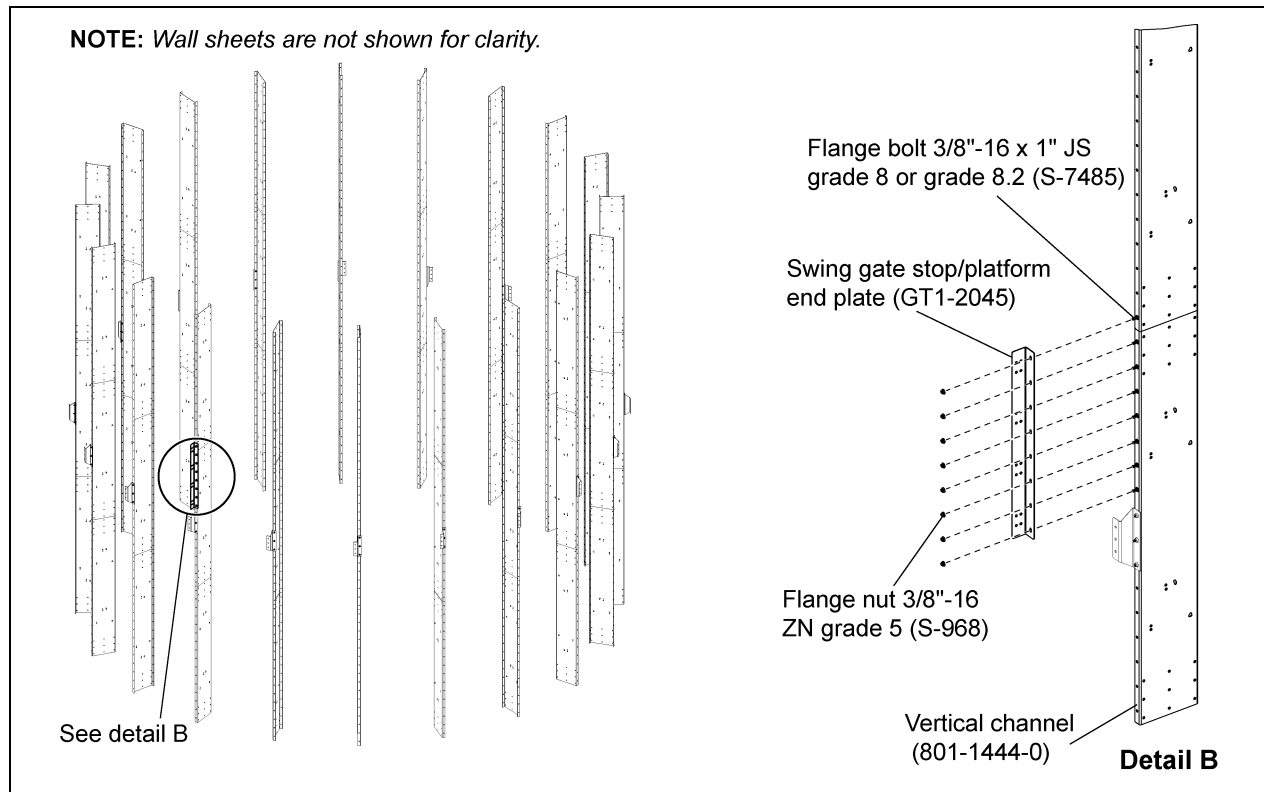
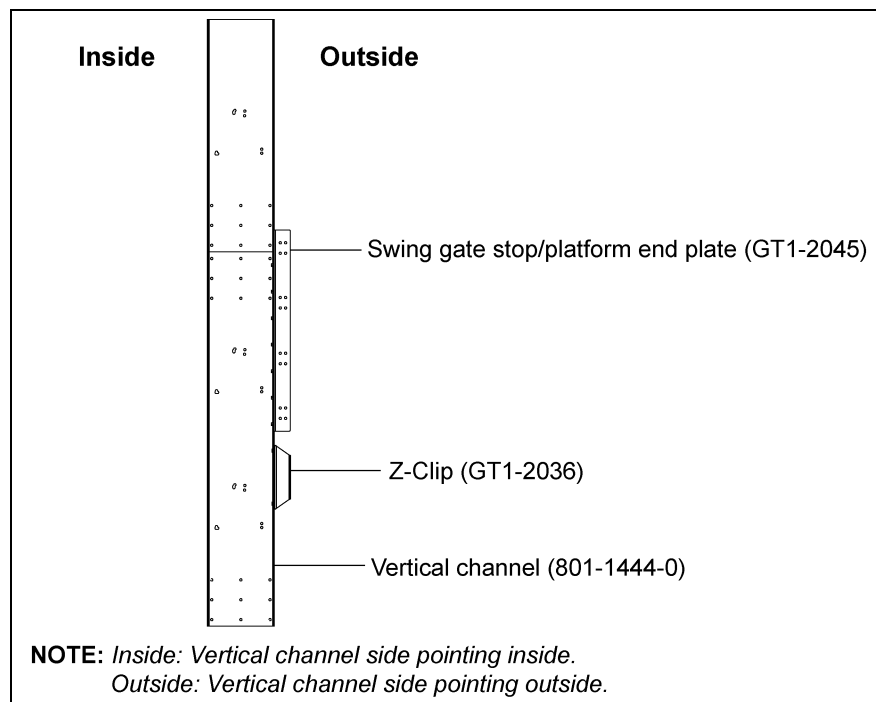

Figure 4C
Figure 4D
1. Identify the ladder opening vertical channel and install the swing gate stop (GT1-2045) to the vertical channel (801-1444-0) as wall sheets are installed using 3/8"-16 x 1" JS grade 8 or grade 8.2 bolts (S-7485) and 3/8"-16 ZN grade 5 nuts (S-968). (See Figure 4C and Figure 4D.)